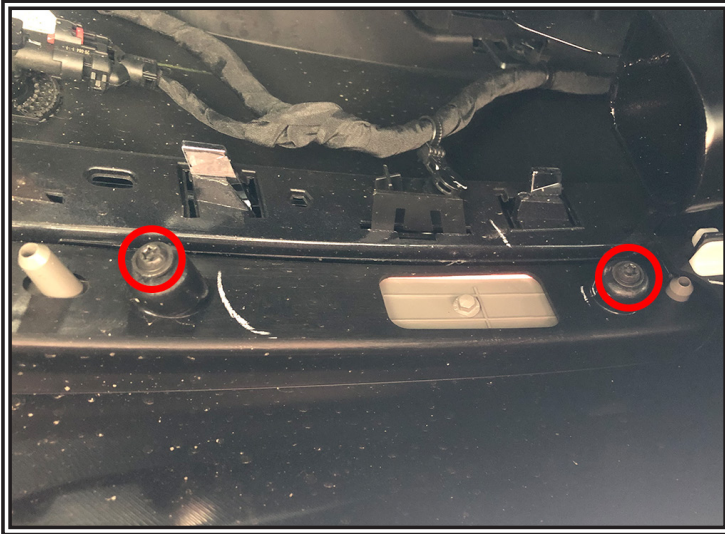

Figure 1
Step 1. Locate the two screws retaining the factory reflectors under the rear bumper as shown in Figure 1.